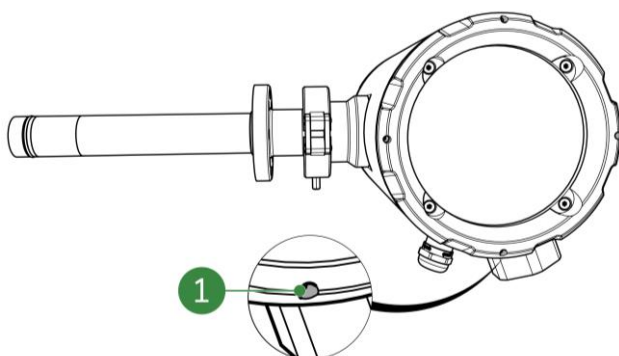

Figure 5-16: Back lid socket head screws
1. Loosen the 4 socket head screws (Figure 5-16, pos. 1) on the outer side of the back lid.
15. Tighten the 4 socket head screws (Figure 5-16, pos. 1) on the outer side of the back lid.